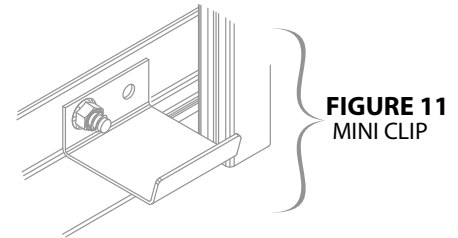

FIGURE 11
STEP 8: MINI STOP CLIPS, HANDLE(S) AND PULL ROPE
- Install mini stop clip at each end on inside of bottom bar using existing single 1/4-20 x 1/2" carriage bolt and nut. **See figure 11.**